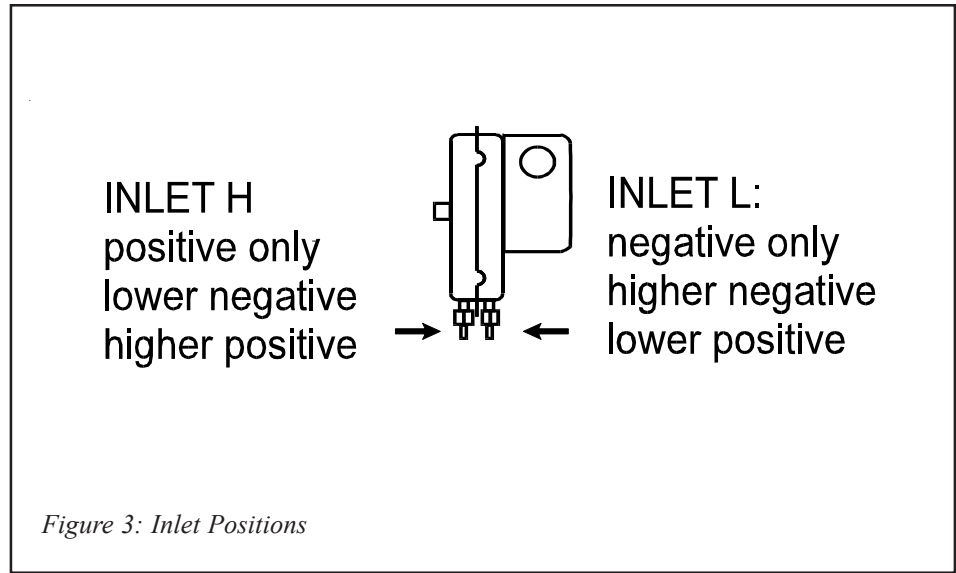

Figure 3: Inlet Positions
4. Use tubing to connect the probe to the "H" side of the air flow switch. Refer to Figure 3 to identify the "H" side of the switch. Refer to Bulletin AFS262.05 for additional information on tubing.